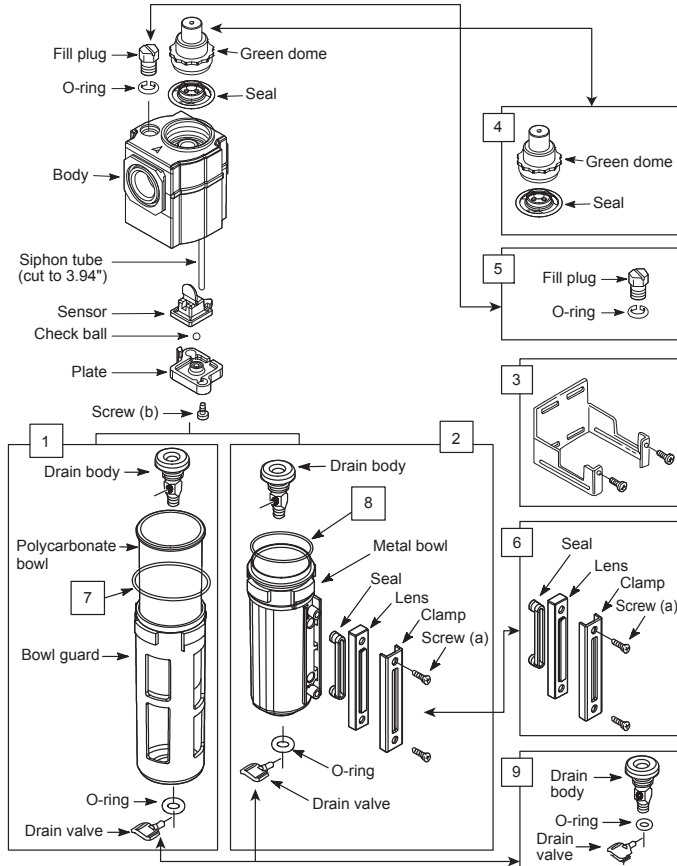

figure 2
## OPERATING INSTRUCTIONS (See Figure 2)
- 1 **Disassembly (See Figure 2)**
- Disassemble in general accordance with the parts illustrated in Figure 2. Do not remove the drain unless replacement is necessary. Remove and replace only if drain malfunctions. Do not remove the siphon tube. Remove and replace the Sensor, Check ball, Plate, Screw (b) only if lubricator malfunctions.
- 2 **Cleaning(See Figure 2)**
- 3 **Assembly (See Figure 2)**
- Assemble lubricator as shown on Figure 2.